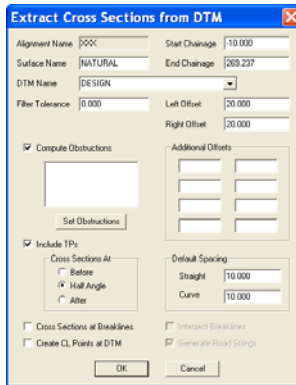

Figure 13-76. Extract Cross Sections From the DTM
- If you press Yes, the *Extract Cross Sections from DTM* dialog box appears (Figure 13-76 on page 13-66).
On the *Extract Cross Sections from DTM* dialog box (Figure 13-76 on page 13-66), do the following: